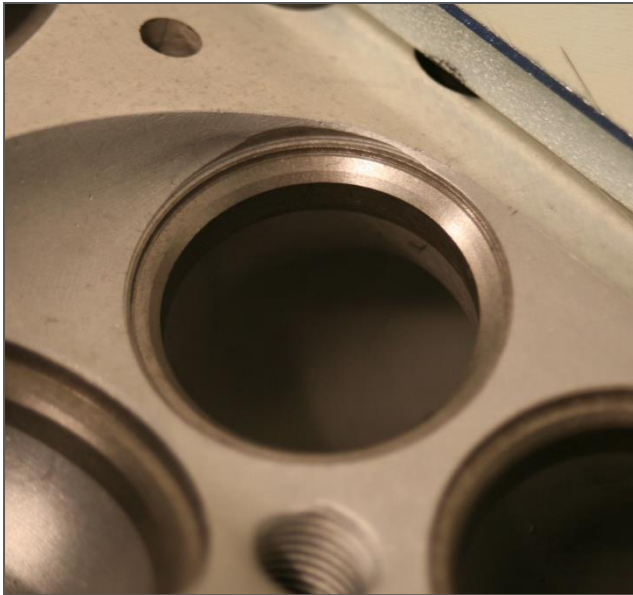

Fig. 28
26. Check the first valve seat with regard to the position of the seat on the valve face. If no correction is necessary, the next valve seats can be processed by repeating **step 13 to 26** (except step 15!). Fig. 28